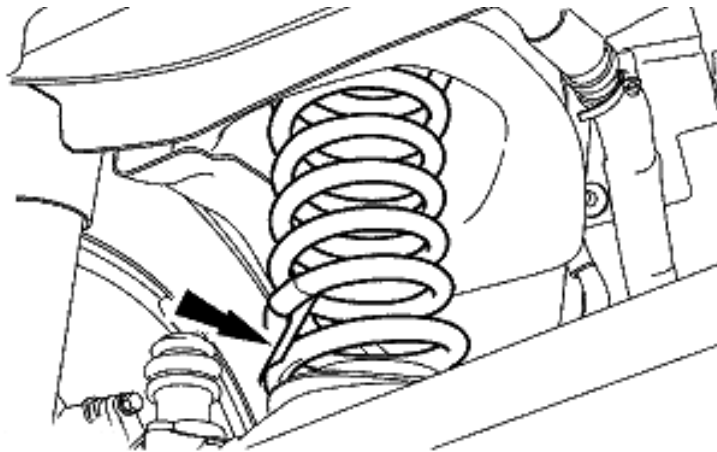

Fig. 5
5. Remove the coil spring and rubber isolators (Fig. 5).